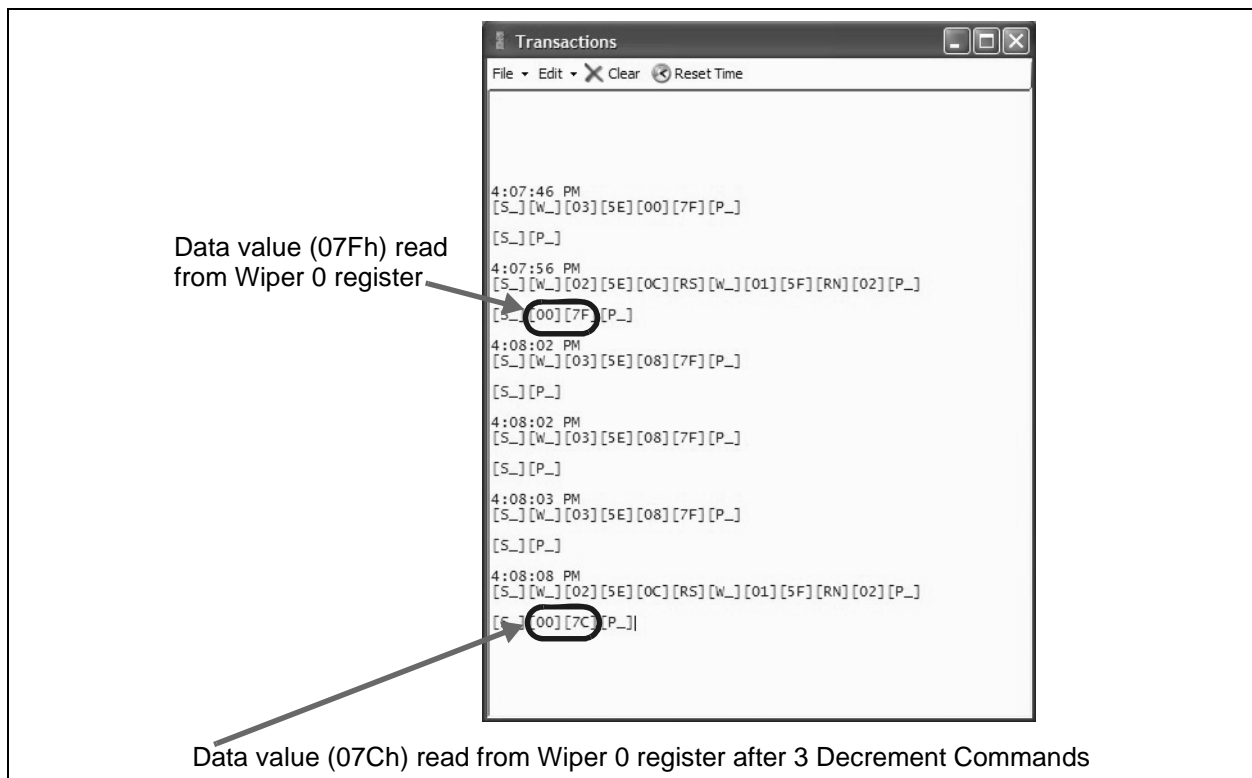

FIGURE 2-18: MCP4661 Transaction Window - Wiper 0 Decrements.
26. Select the “MCP4661W0RD” script in the User I2CM Scripts column and then click on the **Execute Script** button. The Transaction window shows the scripts that were executed and the current value of the Wiper 0 (see Figure 2-18).